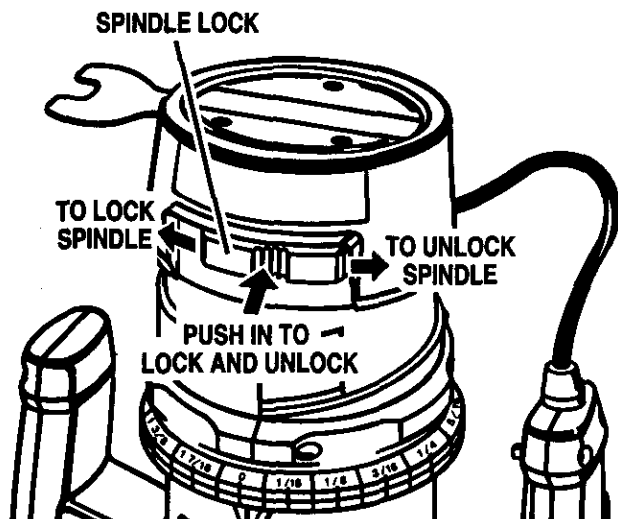

Fig. 2
See Figures 2 and 3.
- A spindle lock is located on the front of the motor housing. To activate lock, push spindle lock in and slide into lock position. See Figure 2.